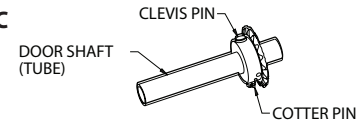

Figure 6C
- 4) Insert clevis pin through both holes and secure with cotter pin. **Fig. 6C.**